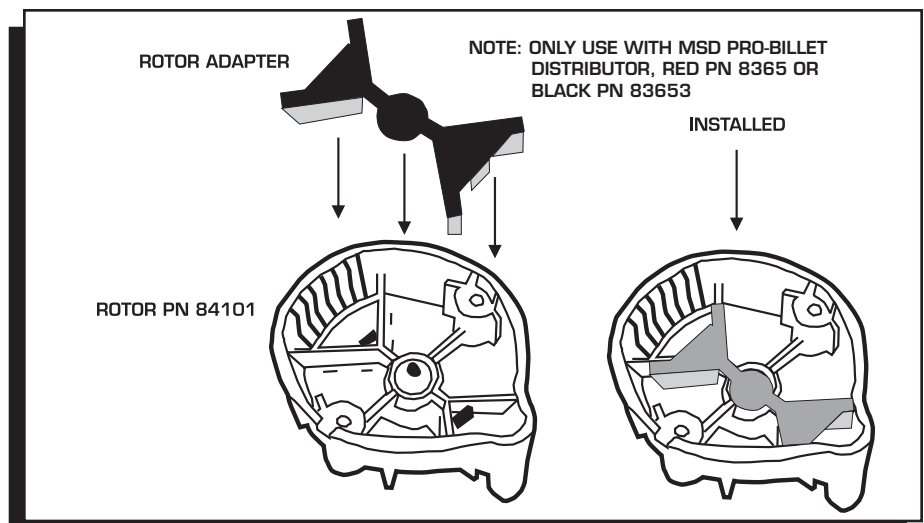

Figure 2 Installing the Rotor Adapter on an MSD HEI Distributor.
3. Install the rotor. If you are using an MSD HEI Pro-Billet Distributor, Red PN 8365, Black PN 83653, the supplied Rotor Adapter **must** be installed (Figure 2).